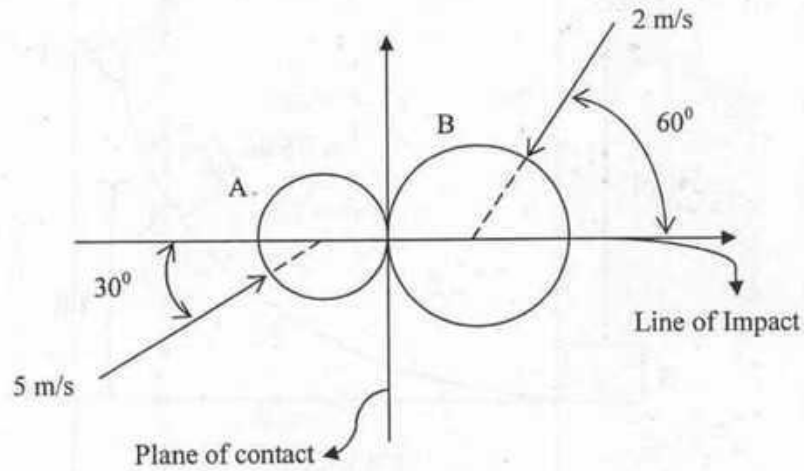

FIGURE 10
11. Two smooth disks A and B, having a mass of 1 kg and 2 kg, respectively, collide with each other with the velocity shown in FIGURE 10. If the coefficient of restitution for the disks is $e = 0.75$ then, determine the x and y components of the final velocities of each disks just after the collision. (10)